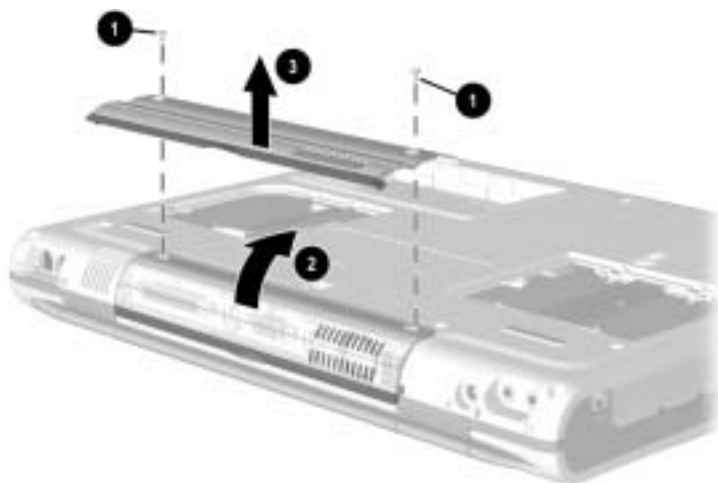

Figure 5-15. Removing the Connector Cover
3. Remove the two TM2.5 × 5.0 screws ❶ that secure the connector cover to the base enclosure (Figure 5-15).
4. Open the connector cover ❷.
5. Remove the connector cover from the base enclosure ❸.